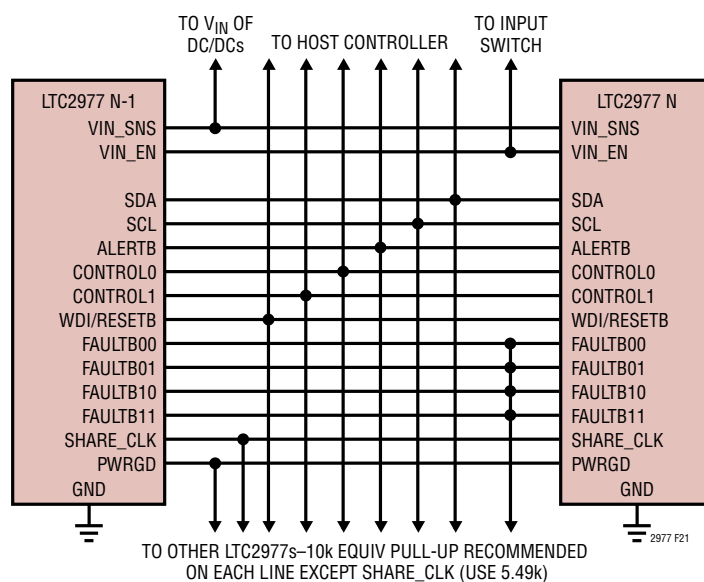

Figure 21. Typical Connections Between Multiple LTC2977s
Figure 21 shows how to interconnect the pins in a typical multi-LTC2977 array.
- The FAULTB_n lines can be connected together to create fault dependencies. Figure 21 shows a configuration where a fault on any FAULTB_n will pull all others low. This is useful for arrays where it is desired to abort a start-up sequence in the event any channel does not come up (see Figure 22).